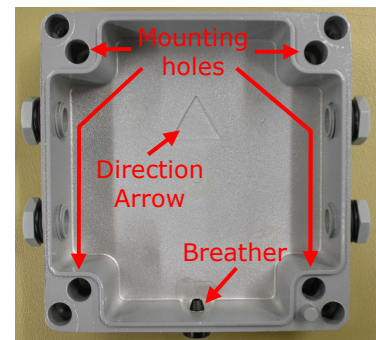
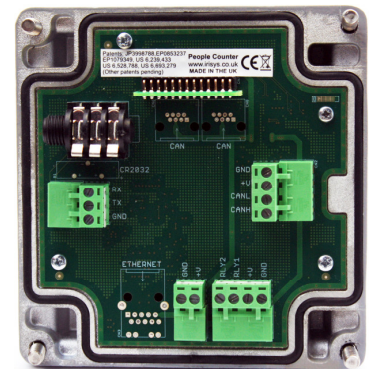

Figure 2 – Back Box
Figure 3 – Relay Counter
1.1 Unscrew the four corner screws on the front of the counter (shown in Figure 1) to access the mounting holes (Figure 2) and connectors (Figure 3) inside.
1.2 Select a suitable location for mounting the metal back box. Refer to the 'Applications Notes' document, IPU40184, for details on suitable locations. Ensure that the 'Traffic Flow Direction Arrows' (Figure 2) of all units (in the case of wide opening installations) are pointing in the same direction (parallel to each other), preferably in the direction of traffic flow.